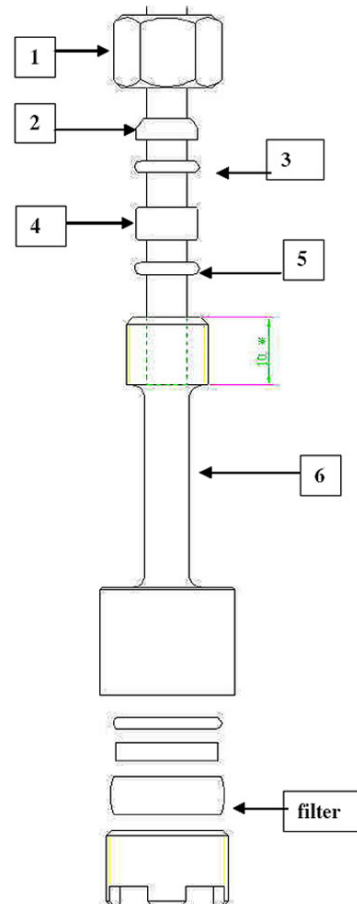

Figure 28: Filter Assembly
5. Disassemble the new support and replace it in the following order (shown in the Figure 28):